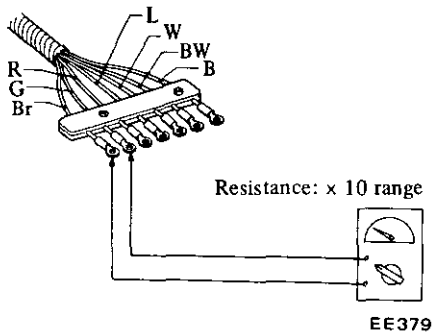

Fig. EE-79 Checking advanced side pick-up coil
2. Connect a circuit tester as shown in Figure EE-79.